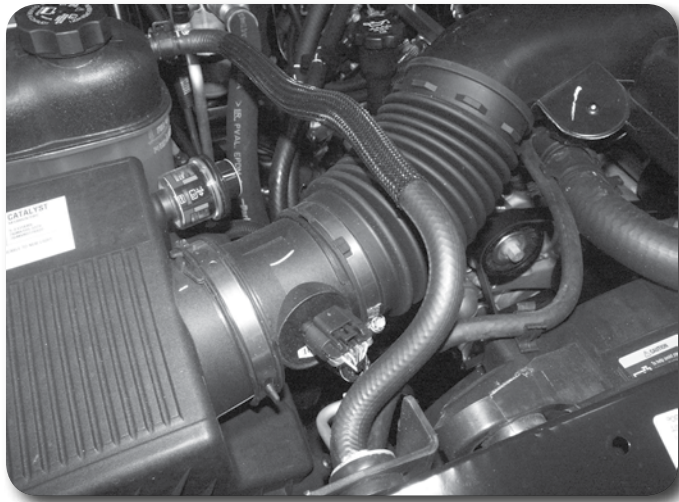

Figure 7
12. Loosen the air intake tube hose clamp at the air box and then remove the intake tube from the air box. **Figure 7**